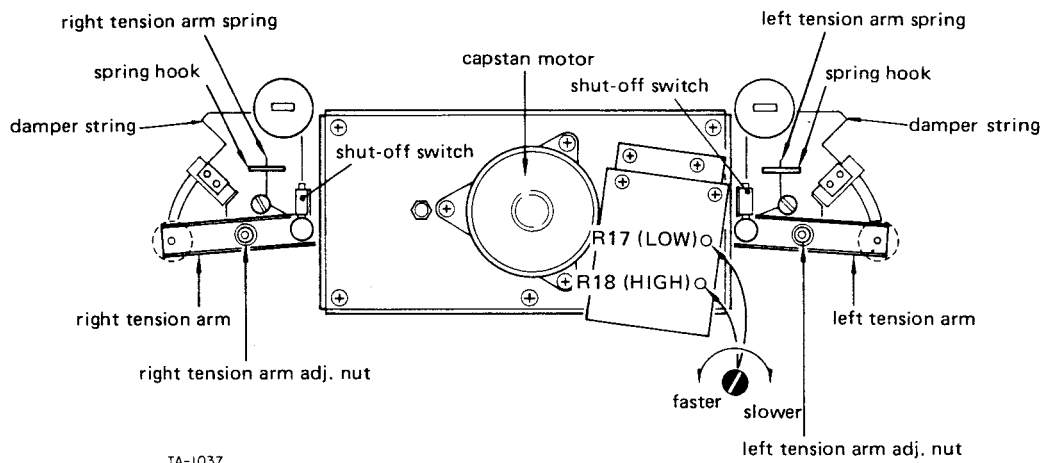

Fig. 2-8 Tension arm height, tension arm force, damper function, and tape speed
3. Stop left (right) guide roller's rotation by hand. Adjust by turning the left (right) tension arm adjusting nut (refer Fig. 2-8) so that the tape moves in the center of the guide roller.
3. Play the tape. Adjust R18 (see Fig. 2-8) for a reading of 3,000 Hz  $\pm 5$ Hz.